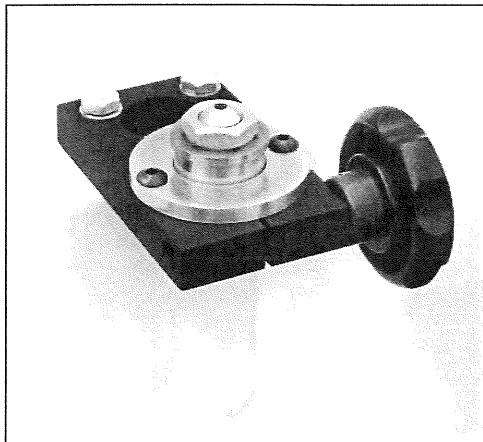

Figure 4. Bottom of Crown is Nearly Flush with Vise Top
2. Insert the tube into the tube vise. Position it so the bottom of the crown is nearly flush with the top of the vise. See figure 4.